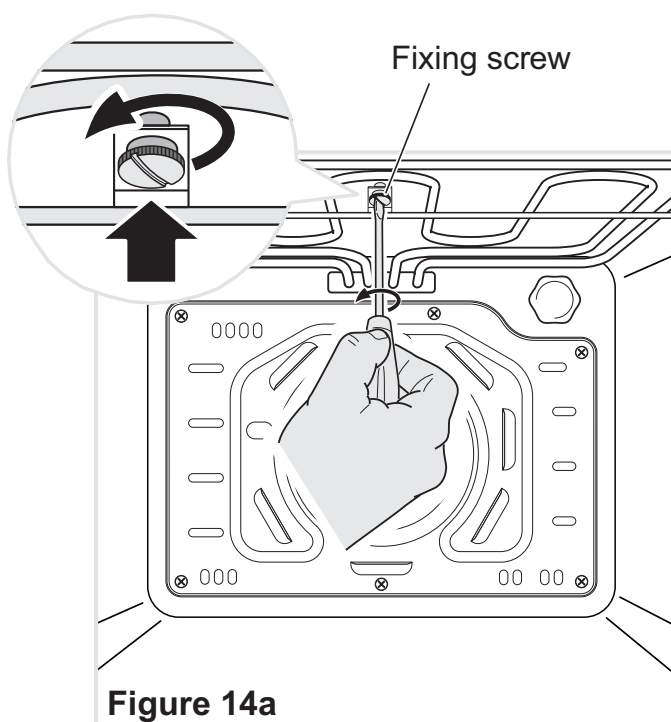

Figure 14a
The grill is secured to the rear wall of the oven on a hinge system that allows it to be lowered to allow proper access when cleaning the oven ceiling (see figs. 14a - 14b).
- To lower the grill element: use a flat-head screwdriver or a small coin to loosen the element fixing screw (fig. 14a).